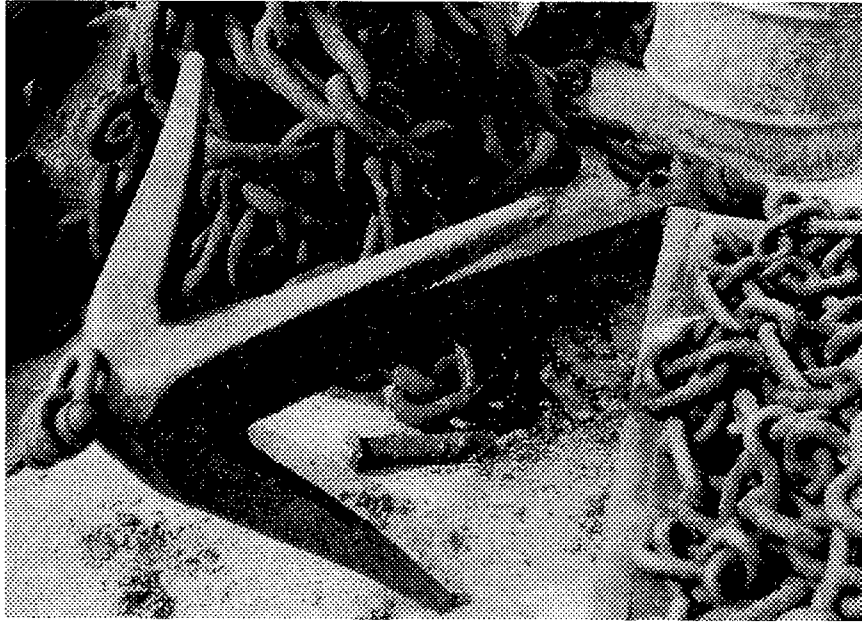

Fig. 8-10 Grapnel (Anchorhawk)
- d. When using the heavy grapnel proceed as follows: Use 1-1/8 to 1-1/2 inch chain depending on the size of the buoy to be recovered, shackled to the grapnel. The scope of the chain should be at least three times the depth of the water. Shackle the inboard end of the chain to a padeye on the deck and drop the grapnel over the side, using the chain stopper. Next lift enough chain to put a bite in a pelican hook on deck. Then unshackle the bitter end from the padeye and set it in the chain stopper. Have way on the ship, otherwise the chain will pile up on top of the grapnel and foul, becoming useless. With the grapnel on the bottom and the ship going ahead slowly, hook a cross deck line into the section of chain leading from the pelican hook over the edge of the buoy port. Fairlead it to the anchor windlass. Keep three or four turns of the line on the gypsy head of the windlass until the sunken buoy or chain is hooked. This will be immediately noticeable, as the additional strain will cause the line to surge on the gypsy head. Keep a forward strain on the chain with the ship until you are sure the grapnel is securely hooked in. Haul the chain aboard (See **Figure 8-10.**)